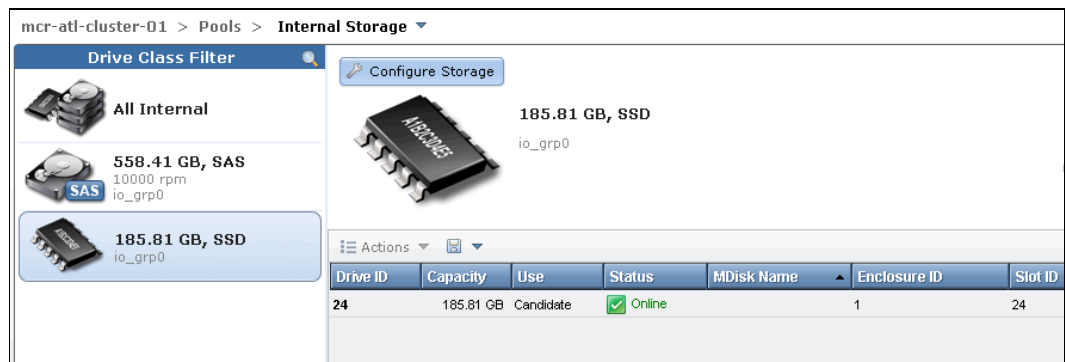

Figure 9-6 Internal SSDs
2. Click **Pools** → **Internal Storage**. Figure 9-6 shows that one internal SSD is available and it is in the Unused status. Internal SSDs are assigned the generic_ssd high performance tier automatically by the IBM Storwize V5000.